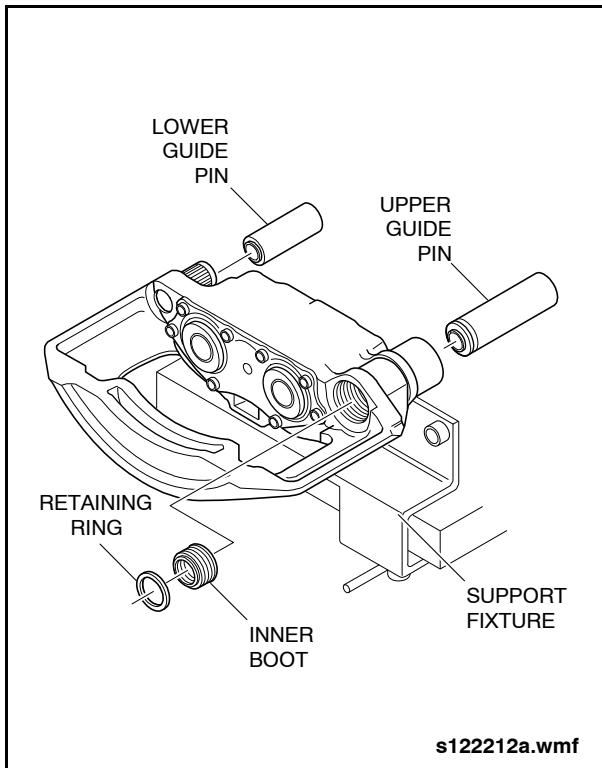

Fig. 2-126: Brake Caliper Guide Pin Removal
8. Remove the retaining ring from the rubber boot on the upper guide pin. See "Fig. 2-126: Brake Caliper Guide Pin Removal" on page 112.